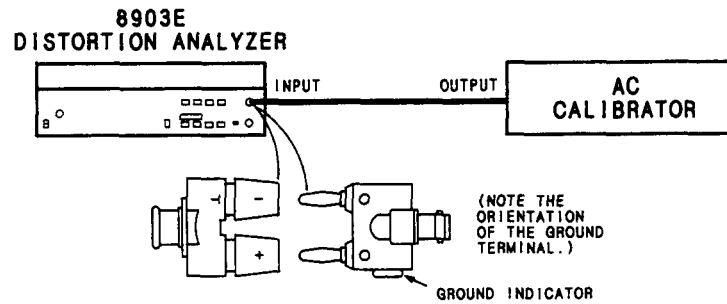

Figure 4-1. High-Level, Low-Input AC Level Accuracy Test Setup
5. Connect the equipment as shown in Figure 4-1. Note how the cable connects to the Distortion Analyzer's input through the two adapters. The adapters reverse the outer and inner conductor connections to the cable.